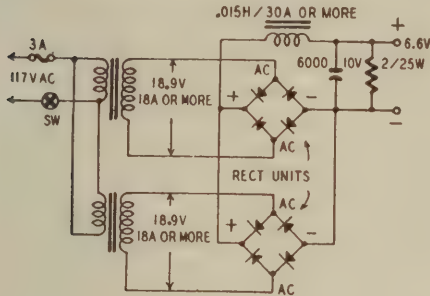
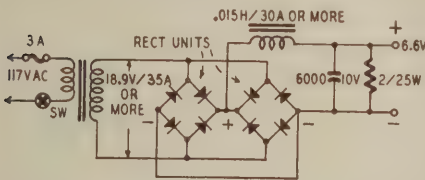

Fig. 1—Paralleled outputs supply 40 amperes.
Fig. 2—Rectifier has single input and output.
A. Since each of the rectifier units you have will deliver only 20 amperes, it is necessary that you connect them in parallel as shown in Figs. 1, 2, and 3. When dry rectifiers are connected in parallel, it is recommended that they be operated from separate transformers and their outputs connected in parallel as shown in Fig. 1. With this circuit you can draw up to 40 amperes from the supply. If you do not care to use the two transformers, then use the circuit in Fig. 2 or 3.